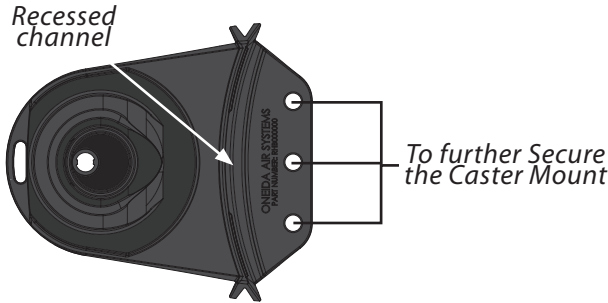

FIG. 5a
5 The Caster assemblies must be adhered to the Bucket (F) with a single smooth motion so that the bottom edge of the Bucket fits within the recessed channel of the Caster Mount [FIG. 5a].